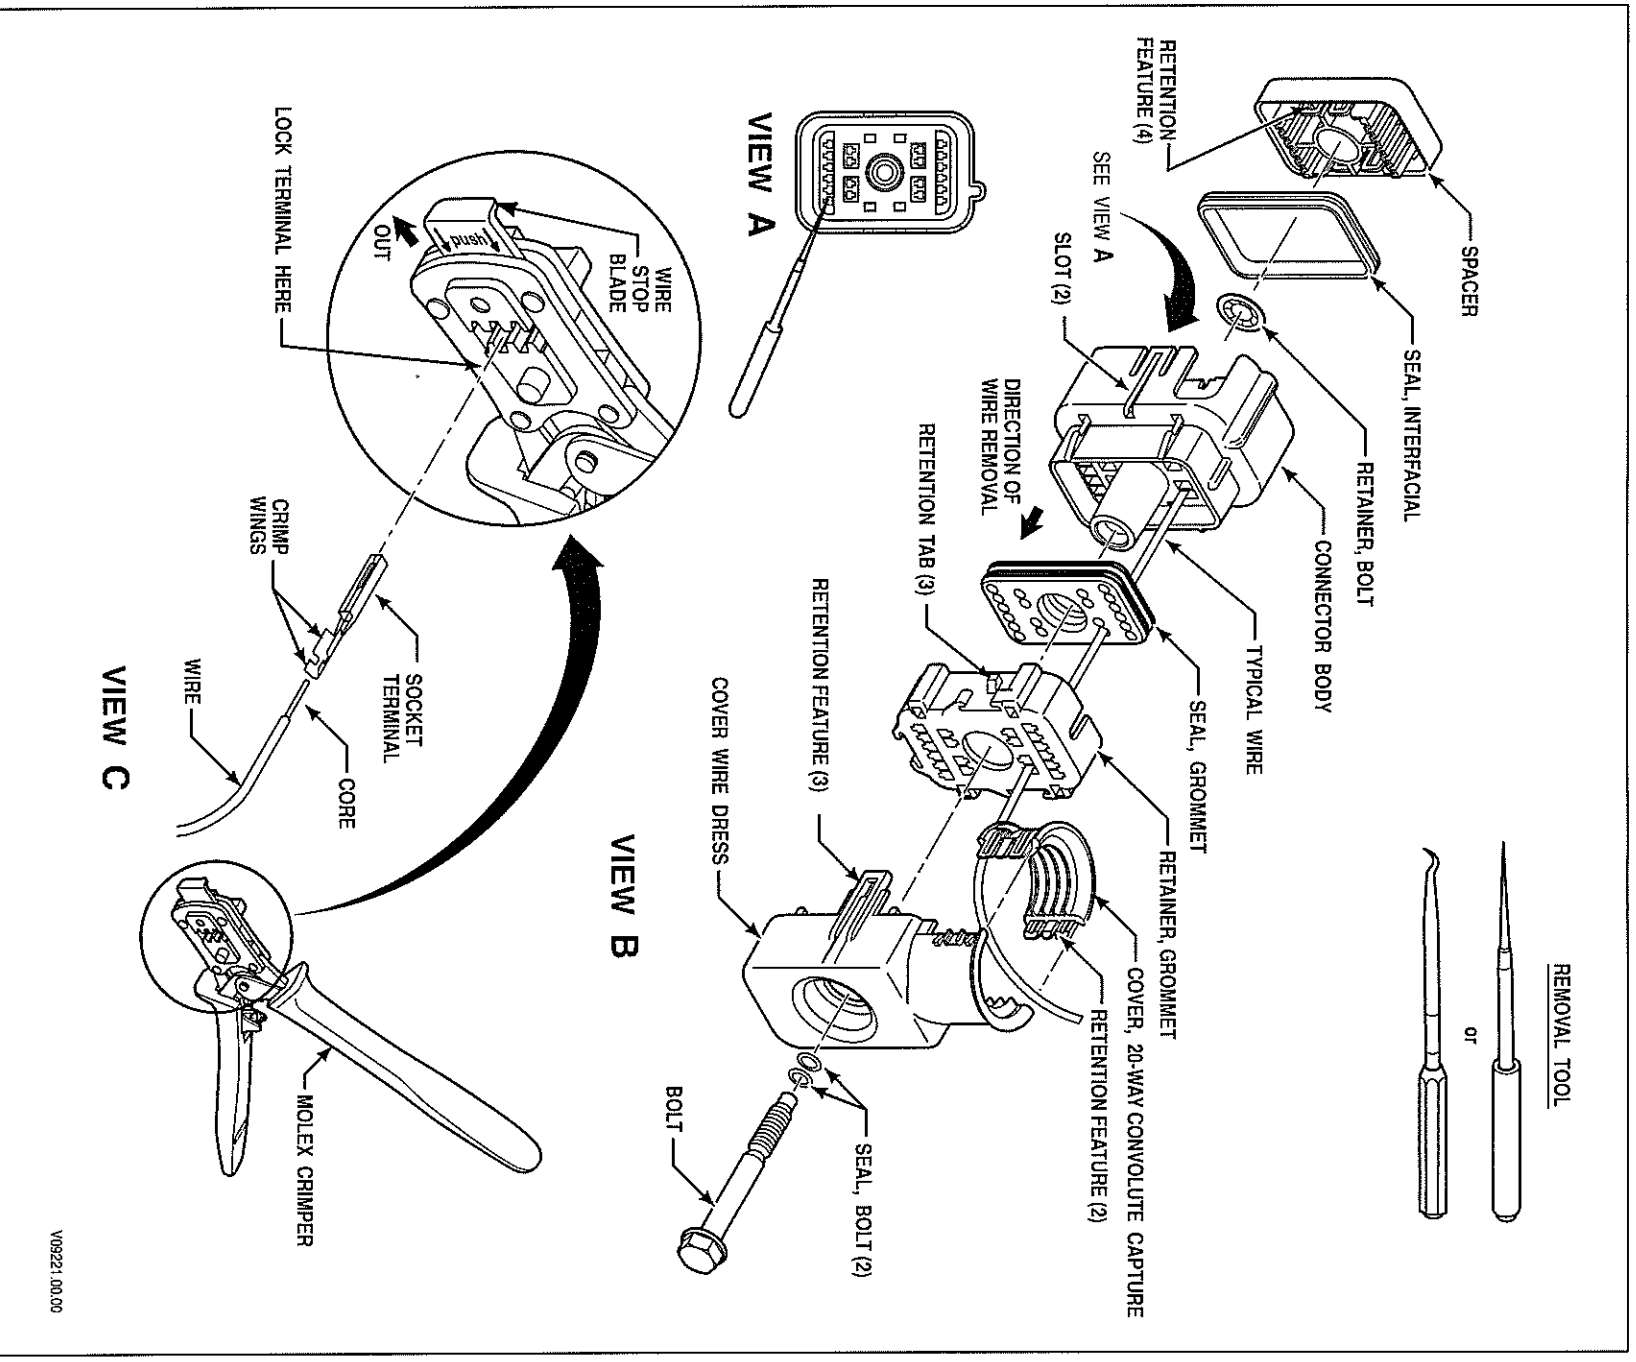

Figure E-3. AFL Automotive 20-Way, Bolt-Assist TCM Connector
- Loosen the bolt (Figure E-3, View B) that retains 20-way connector to the transmission pass-through connector.
- Use a small-bladed screwdriver to gently unlatch the retention features (2) of the wire dress cover and remove it from the backshell wire dress. Gently release the retention features (3) of the backshell wire dress and remove it from the connector body.
7. Insert the metal blade of J 38125-12A or J 39227 remover tool into the small hole in the front of the connector body above or below the desired terminal/wire lead cavity location (See Figures E-3, View A).
2. Refer to Figures E-3, View C. Pull out the wire stop blade of the crimping tool so it is clear of the terminal crimp area. Place the terminal all the way into the appropriate wire size opening of the J 47139 crimping tool until it contacts the stop and is properly oriented. Squeeze the handle enough to keep the terminal in place in the tool but not enough to compress the crimp wings.
9. Refer to Figures E-3, View A. Align the three retention features of the backshell wire dress with the three lock tabs on the grommet retainer and press the backshell wire dress onto the grommet retainer until all three retention features lock. Align the wire dress cover with the backshell wire dress and press into place until it locks on both sides.